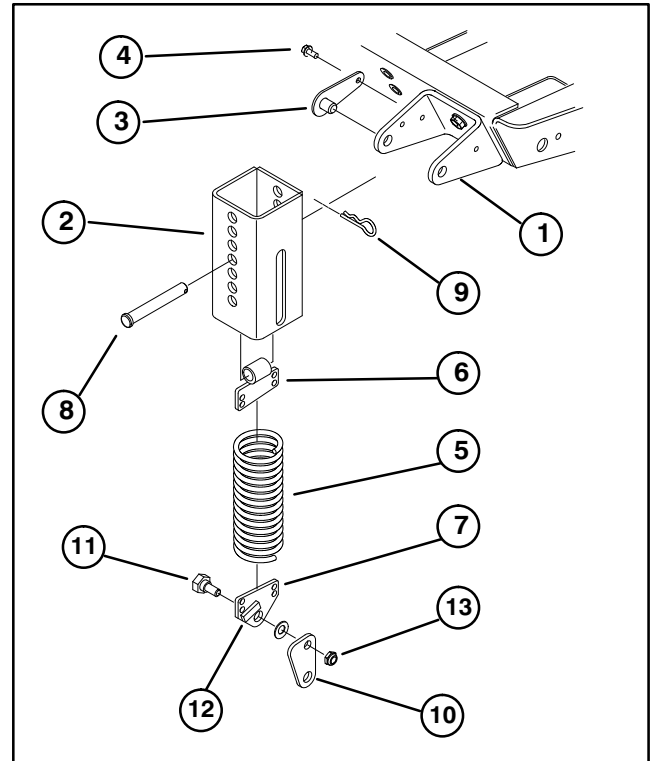

Figure 9
4. Thread the top extension spring coil into the top spring end holes and the bottom extension spring coil into the bottom spring end holes (Fig. 9).
5. Mount knee link to lower spring end with wide part of knee link pointing forward and spring end stop pointing forward. Secure knee link to outer side of spring end with a shoulder bolt, washer and locknut (Fig. 9, 10).
7. Align slotted holes in the spring cover (slot toward the bottom) with the mounting bracket holes. Insert lock pin assemblies into the bracket holes and secure each to the bracket with self-tapping screws (Fig. 9). Torque the screws to 20 ft-lb.
8. From the bottom, insert the spring and top spring end into the spring cover. Select a hole that matches the cutter deck height-of-cut setting; i.e., top cover hole matches the highest height setting, bottom cover hole the lowest, etc. Align the top spring end hole with the selected spring cover holes and insert the clevis pin to secure the spring inside the cover (Fig. 9). Secure clevis pin with a hair pin cotter.